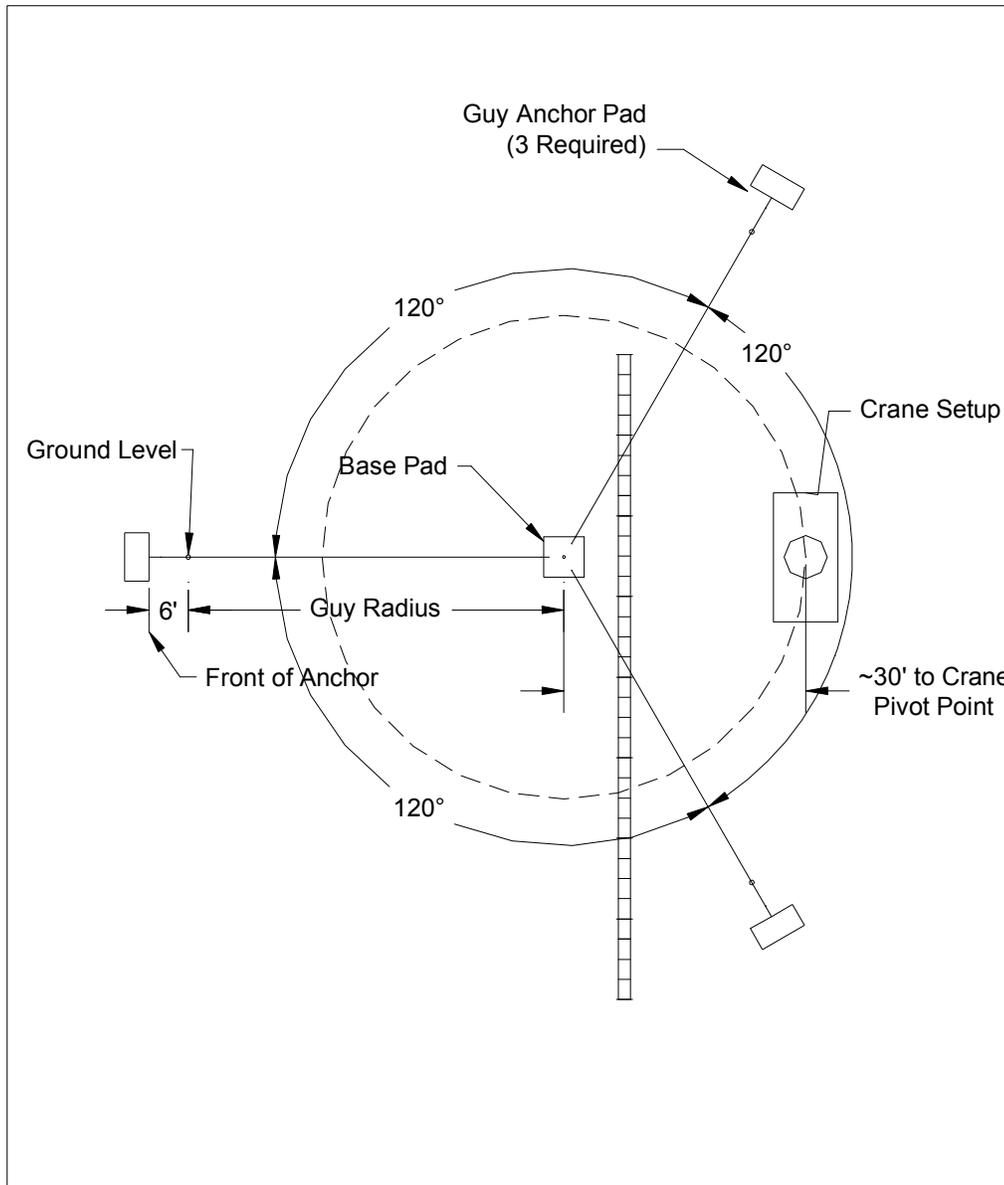

Figure 6: Construction Site Layout Plan View
Upon arrival on site prepare the installation area for tower erection, following the general site layout shown in **Figure 6** or **Figure 7**. Plan to lay the tower sections out in a line so that the lift point of the tower is roughly in line with the base pad. Plan for the crane to set up approximately 30'-35' from the base pad, in line with one of the anchors. The tower should be assembled between the crane and the base pad.
- b. The working radius of the lift (measured from the pivot point of the crane to the base pin of the tower). This value shall be measured on site as the shortest distance to the base pin the crane pivot point can access. The ideal radius for tower installation is approximately 30' (shown in **Figure 6**).